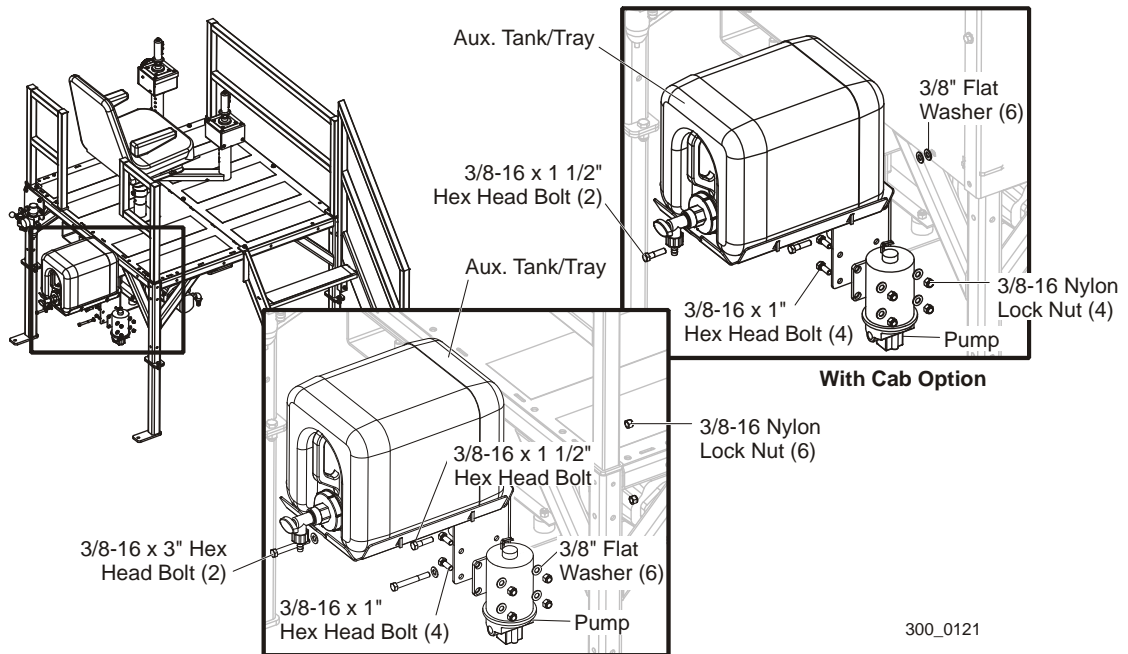

FIG. 3-4
**See Figure 3-4.** The auxiliary tank can be mounted to the back of the operator's station using the hardware provided: